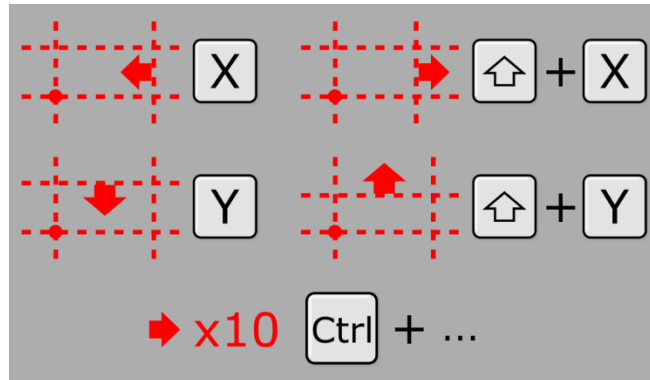

Figure 29 - Smart Cut re-scaling instructions
**Re-scaling.** To adjust the grid size during Smart Cut mode, use the keyboard shortcut described in Figure 29 :